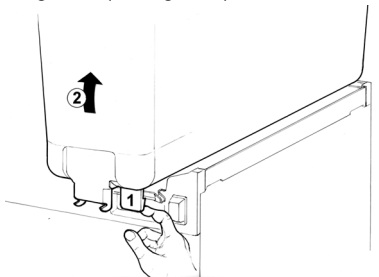

figure 1
- 2** Remove the empty bowl by lifting pulling lever (1) and its front side (faucet side) up and off bowl gasket (see figure 1).